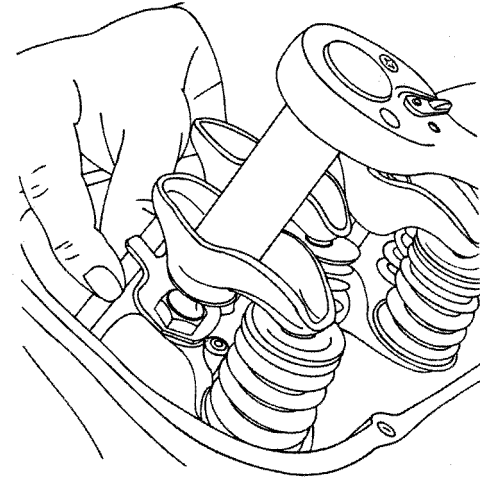

FIGURE 7
3. Loosen the adjusting nut until lash is felt at the pushrod then tighten the adjusting nut until all lash is removed. This can be determined by rotating the pushrod while turning the adjusting nut. See Figure 7. When the lash has been removed, tighten the adjusting nut an additional 1/8 turn to center the lifter plunger.